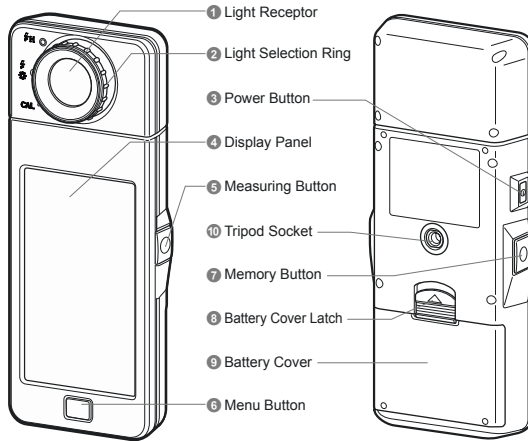

Figure 4.4 – CRI Illuminance-meter KONICA-MINOLTA CL-70F. Schematic from the datasheet given by the manufacturer.
The CRI Illuminance-meter at your disposal (see fig. 4.4) allows you to both quantify and analyze the spectral components of a source in order to deduce, after some numerical calculations, various quantities such as the colorimetric coordinates. This type of instrument works on the principle of a grating spectrometer, completed by some numerical processing.
- Switch on the instrument CL-70F KONICA-MINOLTA (*Power Button* ③).
- Realize the calibration of the instrument by selecting *CAL* with the rotating ring ② , fig. 4.4).
- Orient the sensor (behind the white diffusive plate) towards the source and click on ⑤ : *Measure*.